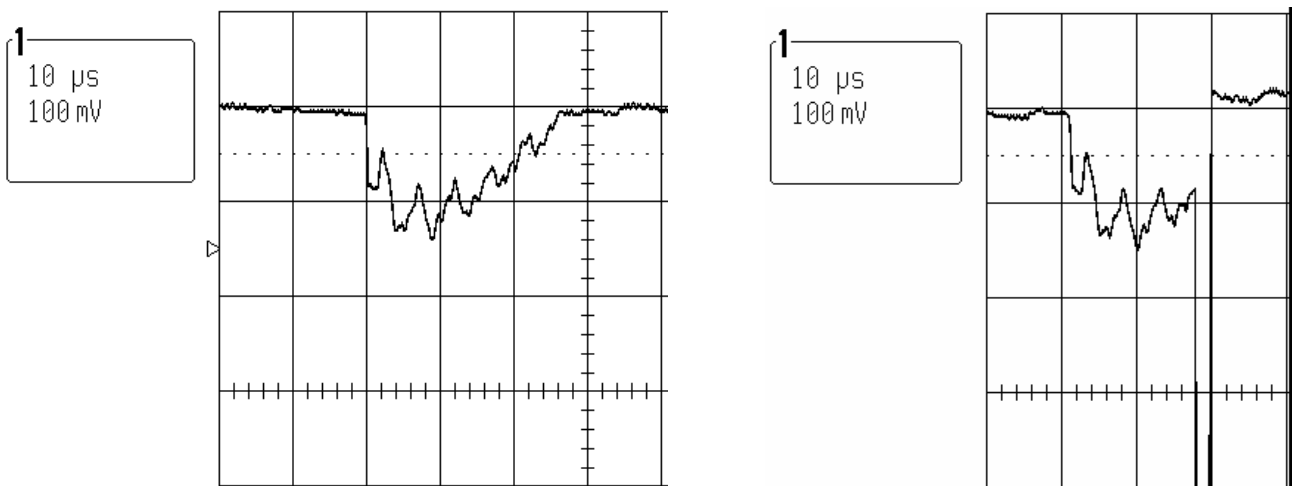

Fig.12 Oscilloscope traces explaining Q-switch operation
18. By increasing the lamp pumping energy, obtain the oscillogram indicating the feedback is functioning (Fig.12, the first diagram). The Δt value will appear at control pad indicating the time duration between beginning and end of generation.
21. A negative pulse should appear at oscillogram (Fig.12, the second diagram). A laser pulse should also appear at generator output. We might check it by vizualizer and generator energy indicator at control pad.